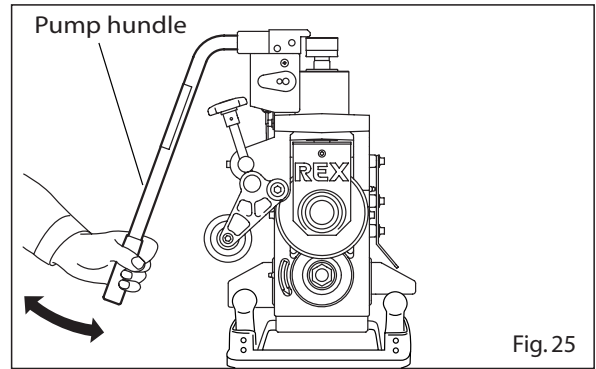

Fig. 25
- 5) Use the hydraulic pump to start the grooving process. (Fig. 25)